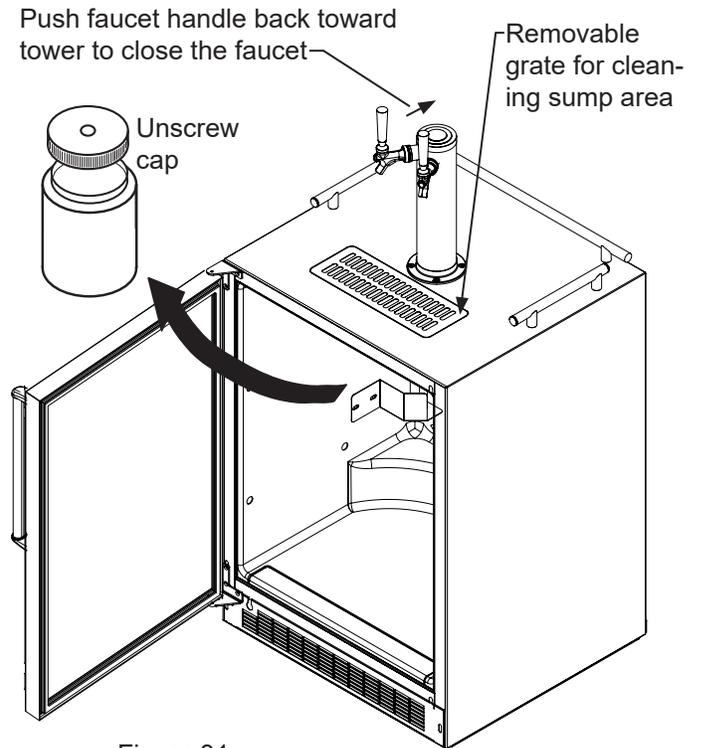

Figure 31
2. Be sure the faucet handle is closed on the tower (see Figure 31).
On a **free standing kegerator** remove the grate from in front of the tower, clean with soap and water and dry before reinstalling. Clean the sump area with soapy water and dry. (See figure 31).
Turn off the gas supply with the shutoff valve under the regulator (see Figure 31) and open the faucet to relieve the pressure. To remove the faucet from the tower use the spanner wrench provided. Place the pin on the wrench into the hole on the faucet collar and turn clockwise  $\boxtimes$  to remove the faucet. (See Figure 35).